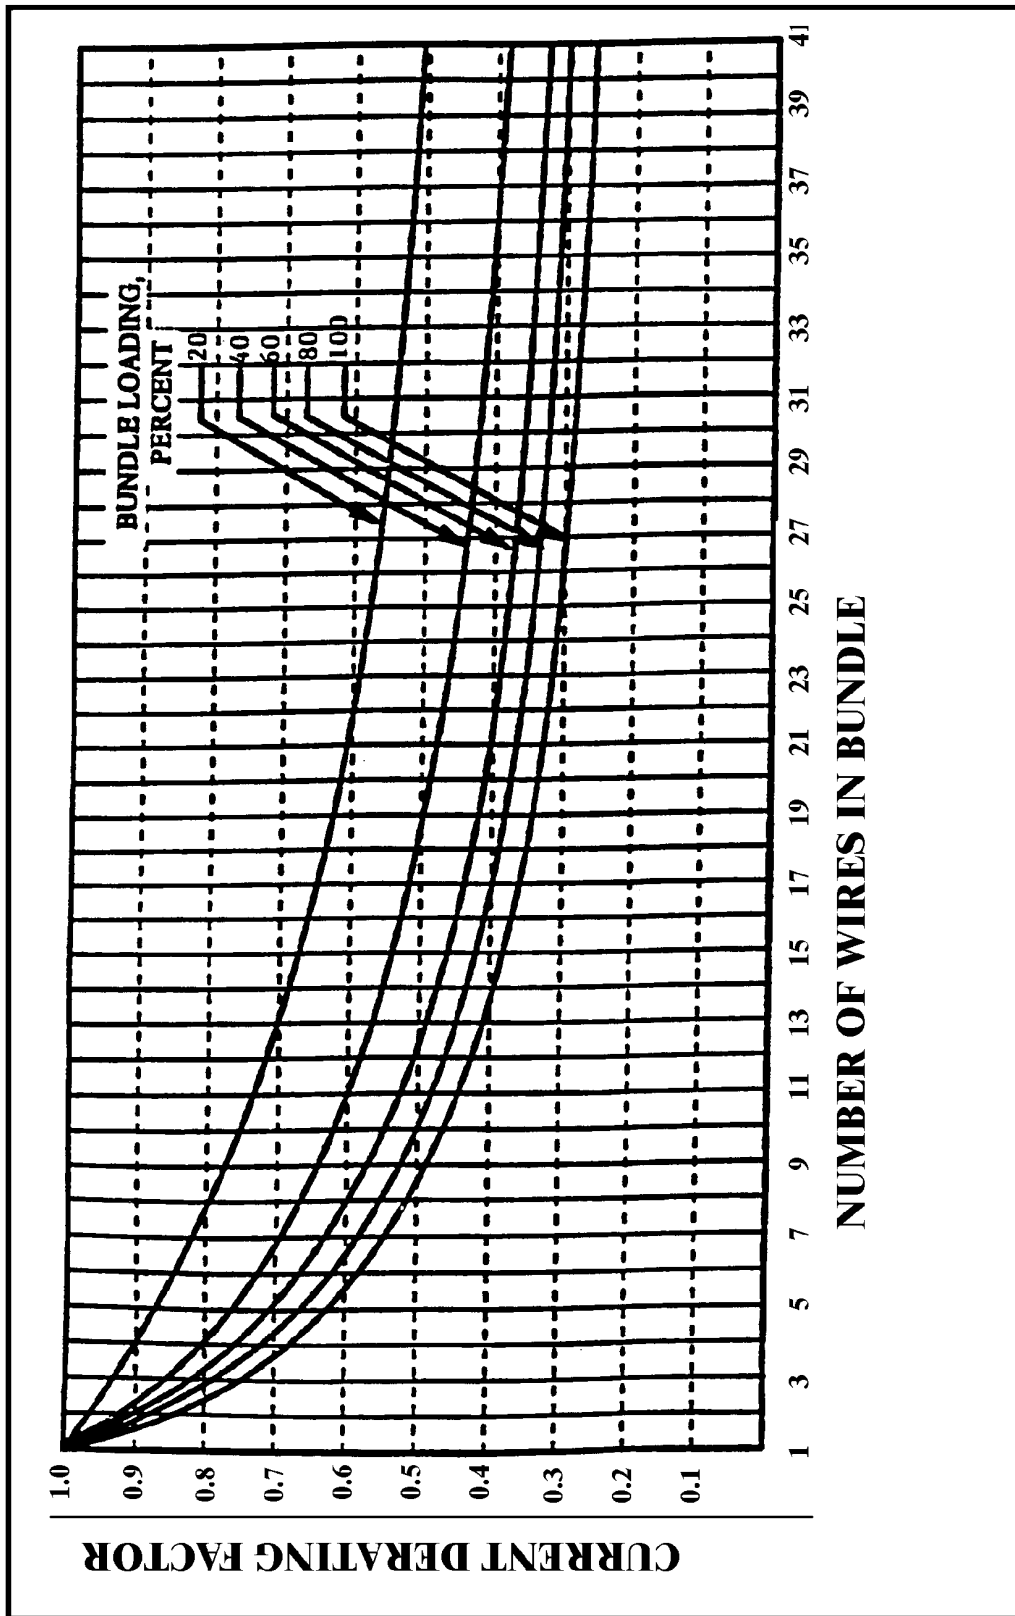

FIGURE 11-5. Bundle derating curves.
**11-67. METHODS FOR DETERMINING CURRENT CARRYING CAPACITY OF WIRES.** This paragraph contains methods for determining the current carrying capacity of electrical wire, both as a single wire in free air and when bundled into a harness. It presents derating factors for altitude correction and examples showing how to use the graphical and tabular data provided for this purpose. In some instances, the wire may be capable of carrying more current than is recommended for the contacts of the related connector. In this instance, it is the contact rating that dictates the maximum current to be carried by a wire. Wires of larger gauge may need to be used to fit within the crimp range of connector contacts that are adequately rated for the current being carried. Figure 11-5 gives a family of curves whereby the bundle derating factor may be obtained.
**d. Wires in a Harness.** When wires are bundled into harnesses, the current derived for a single wire must be reduced as shown in figure 11-5. The amount of current derating is a function of the number of wires in the bundle and the percentage of the total wire bundle capacity that is being used.
(2) Find the temperature differences (TR-T1) = (200 °C-50 °C) = 150 °C.
(3) Follow the 150 °C corresponding horizontal line to intersect with #14 wire size, drop vertically and read 47 Amps at bottom of chart (current amperes).
(4) Use figure 11-5, left side of chart reads 0.91 for 20,000 feet, multiple 0.91 x 47 Amps = 42.77 Amps.
**STEP 2:** Refer to the “bundle derating curves” in figure 11-5, the 20 percent curve is selected since circuit analysis indicate that 20 percent or less of the wire in the harness would be carrying power currents and less than 20 percent of the bundle capacity would be used. Find 35 (on the abscissa) since there are 35 wires in the bundle and determine a derating factor of 0.52 (on the ordinate) from the 20 percent curve.
**STEP 2:** Refer to the “bundling derating curves” in figure 11-5, the 100 percent curve is